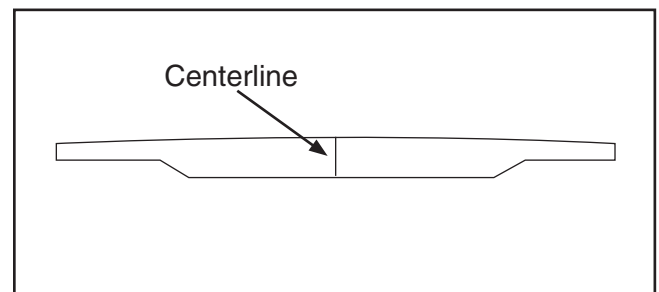

Figure 11. Brace with centerline marked.
1. Mark the center on the side of each brace, as shown in **Figure 11**. Transfer any identification markings to the side of the brace as well.